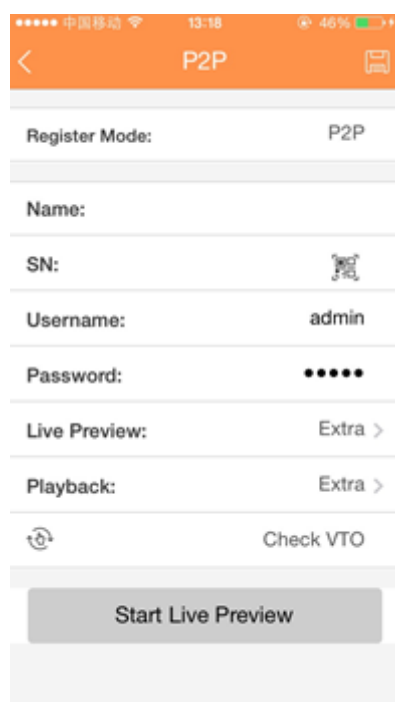

Figure 4-104
- Tap Device manager button, you can use several modes (P2P/DDNS/IP and etc) to add the device. Click  to save current setup. Tap Start Live preview to view all-channel video from the connected device. See Figure 4-104.